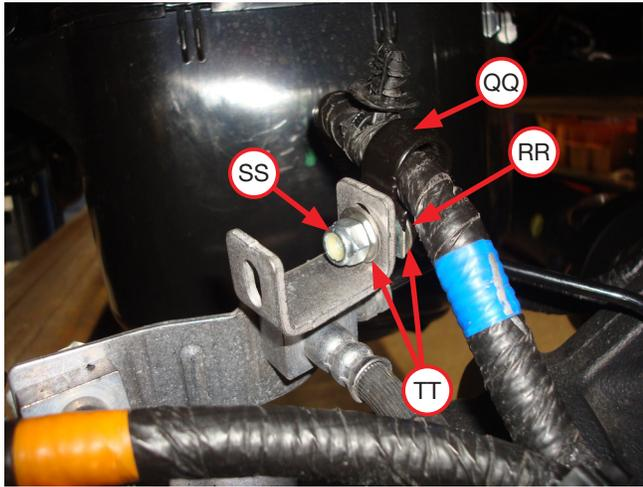
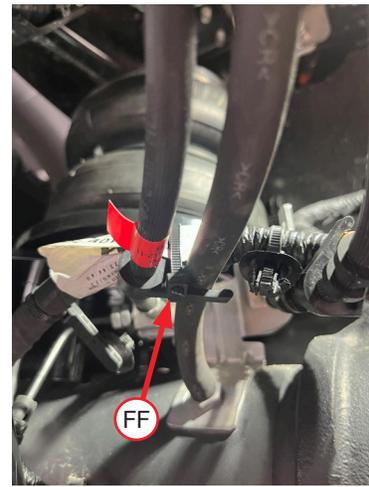

Fig. 26
Fig. 27
4. Install the P-clamp (QQ) around the right ABS harness and attach the P-clamp to the inside hole on the bracket section that was just bent (Fig. 26) using the 1/4-20 x 3/4" hex head bolt (RR), 2 flat washers (TT) and a lock nut (SS). Zip tie the parking brake harness to the brake line coupler, as shown in Figure 27.